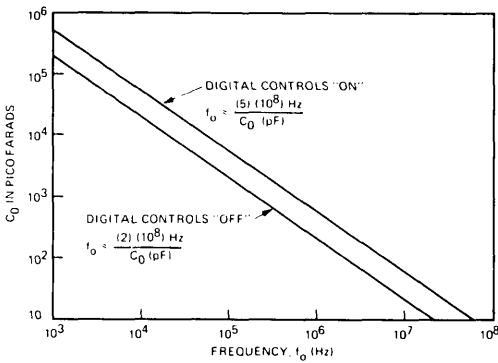

Figure 12. VCO Frequency as a Function of Timing Capacitor, C_0
1. External timing capacitor C_0 tunes the VCO to a center frequency between 0.1 Hz and 40 MHz. The free-running frequency is inversely proportional to C_0 . (see Figure 12)
Typical performance characteristics of the VCO section are shown in Figures 12, 13, and 14.